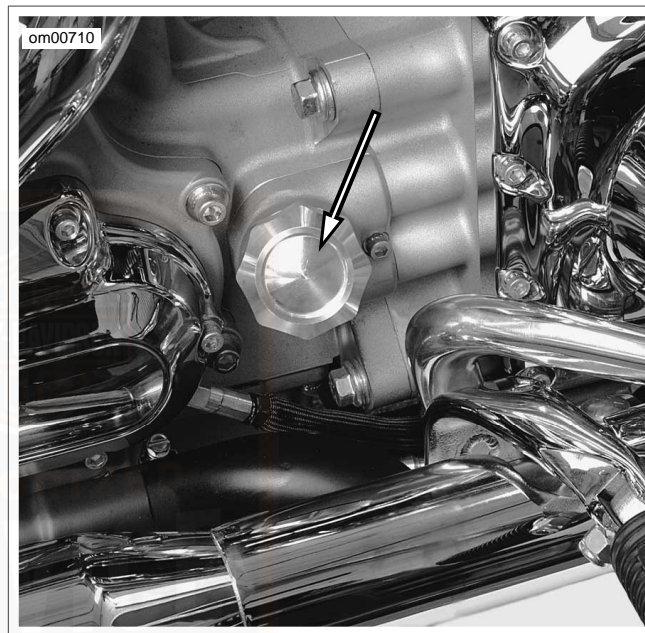

Figure 21. Dipstick Location: Dyna Models
See Figure 21. Dipstick is located on lower right side of engine.
1. See Figure 21. For preride inspection with the vehicle resting on the jiffy stand on level ground, wipe off the dipstick and insert it back into the oil pan with the cap screwed completely into the fill spout.
2. See Figure 21. Unthread the cap to remove the oil filler plug/dipstick.